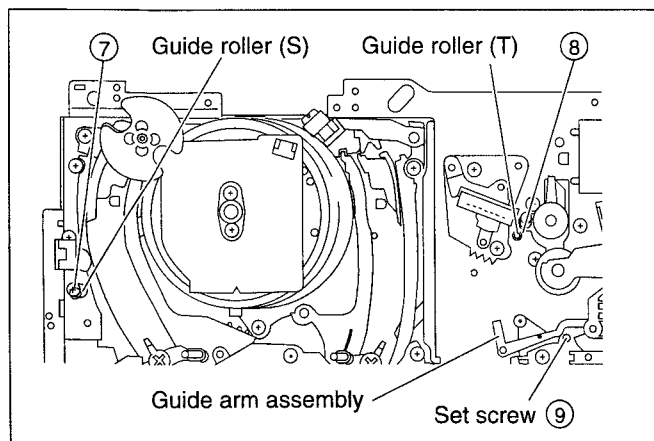

Fig. 2-5-10
(2) Guide arm assembly
- (c) Rotate the set screw (9) clockwise to raise the height of the guide arm assembly. (Refer to Fig. 2-5-10)
- (3) When adjusting the tape transport parts, be sure to perform the compatibility adjustment again. (Refer to Chapter 2.5.1, 2.5.2 and 2.5.3.)